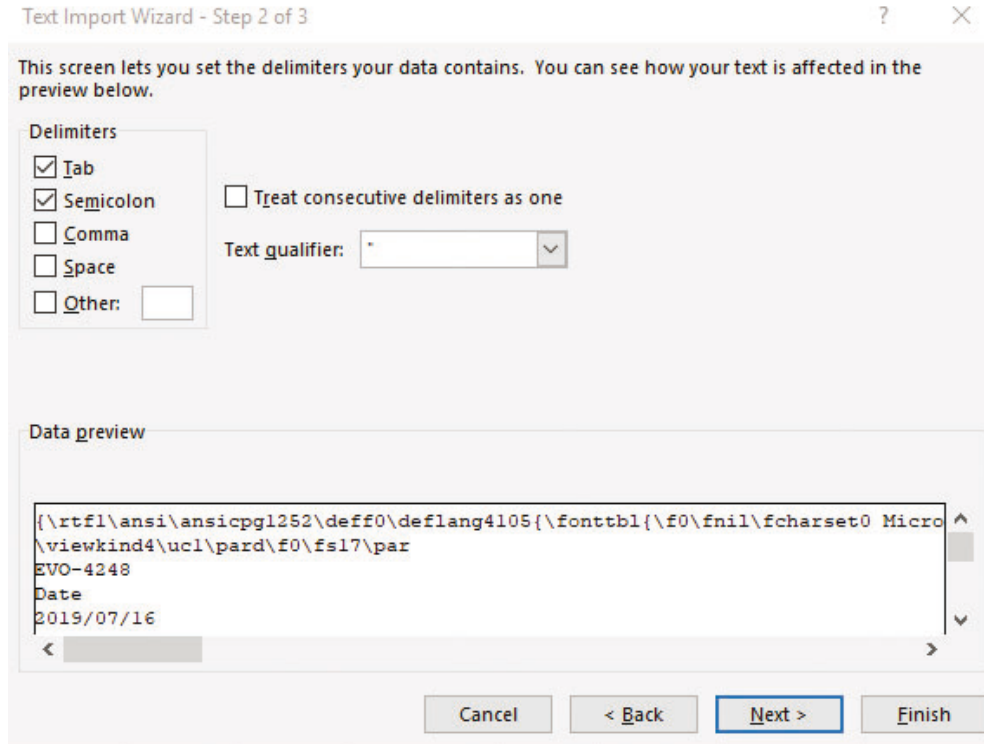

Fig 5.3 Screen Shot of Step 2 of "Text Import Wizard" in Excel
- Text Import Wizard – Step 2 will appear (See Fig 5.3). Choose "Semicolon" and click 'Finish' button.